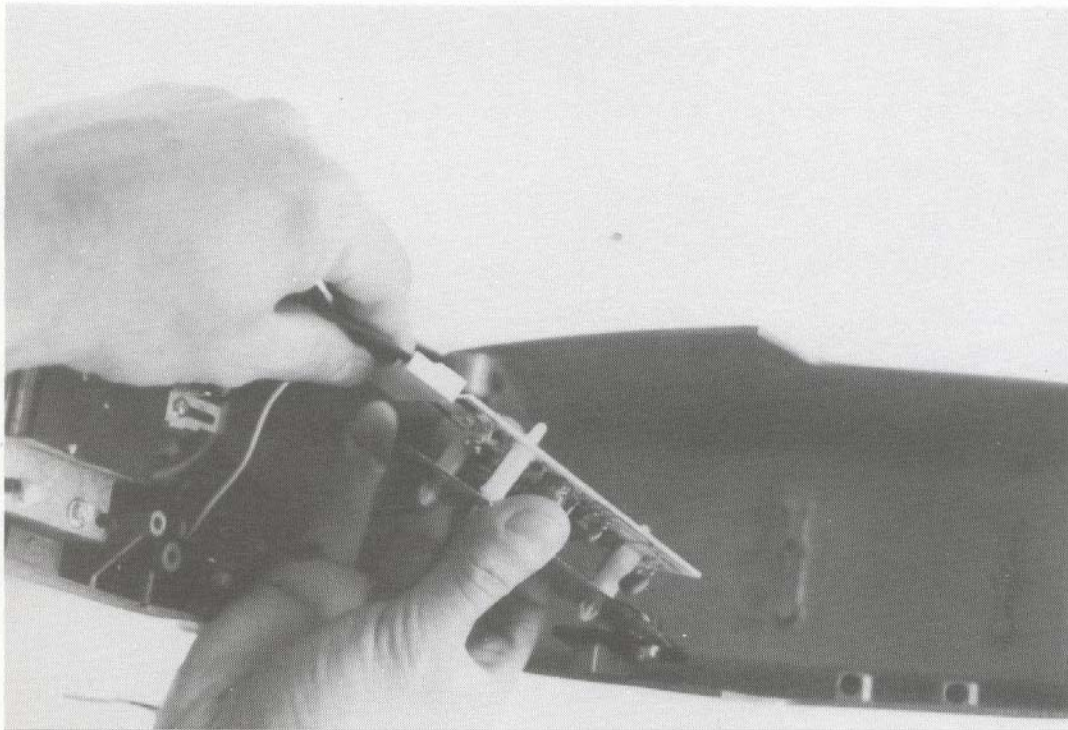

Figure 33
- Attach terminal connector to circuit board (*figure 33*).